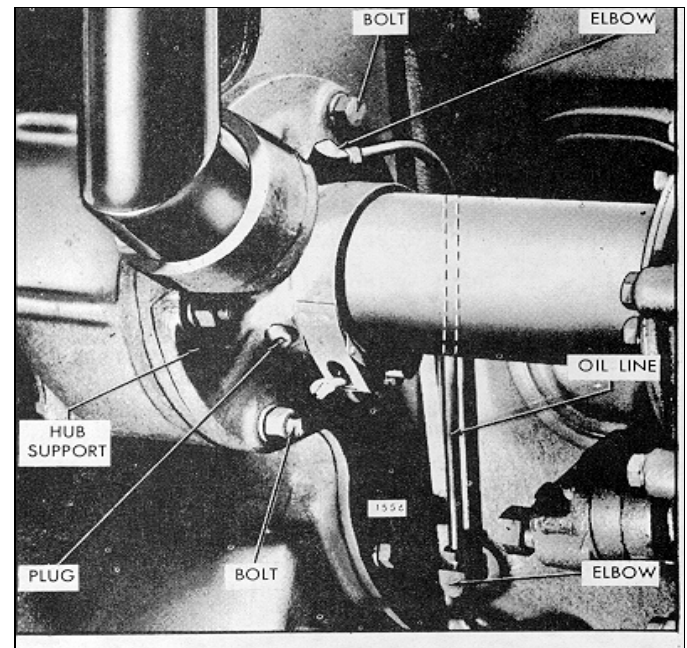

Fig. 3 - Blower Drive Gear and Support Assembly Mounting
2. Remove the blower drive oil line (Fig. 3).